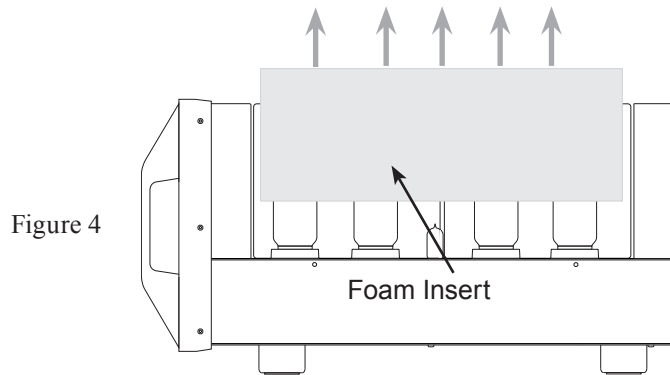

Figure 4
5. Carefully lift up and remove the Foam Insert from both sides the MC2301 exposing the Tubes. Refer to figures 4 and 5.